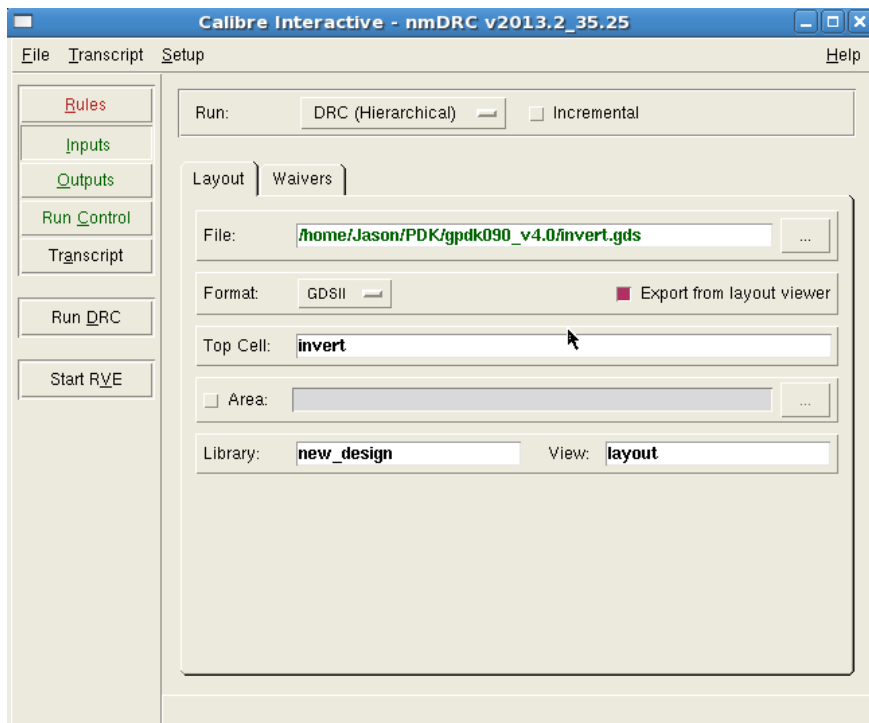

Fig. 29
2. Specify the “Calibre-DRC rules file” and the “Primary cell” in Calibre interactive-DRC window (Fig 29). If you need to change some DRC switches, you have to edit the Calibre DRC deck first.